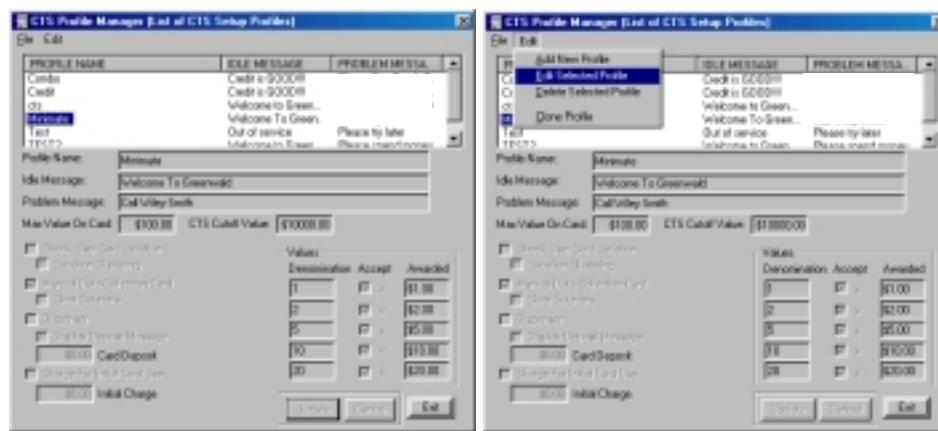

Figure 9.5 Editing a Cash CTS Profile
2. Click the profile to edit from the Cash CTS Profile List Window (Figure 9.5).
3. Select Edit Selected Profile from the Edit drop-down menu (Figure 9.5).